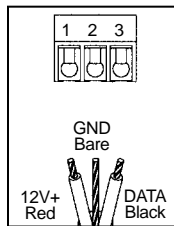

Figure 3
2. Run the cable to the TIR1+. Label the cable for future reference. See (Figure 3).